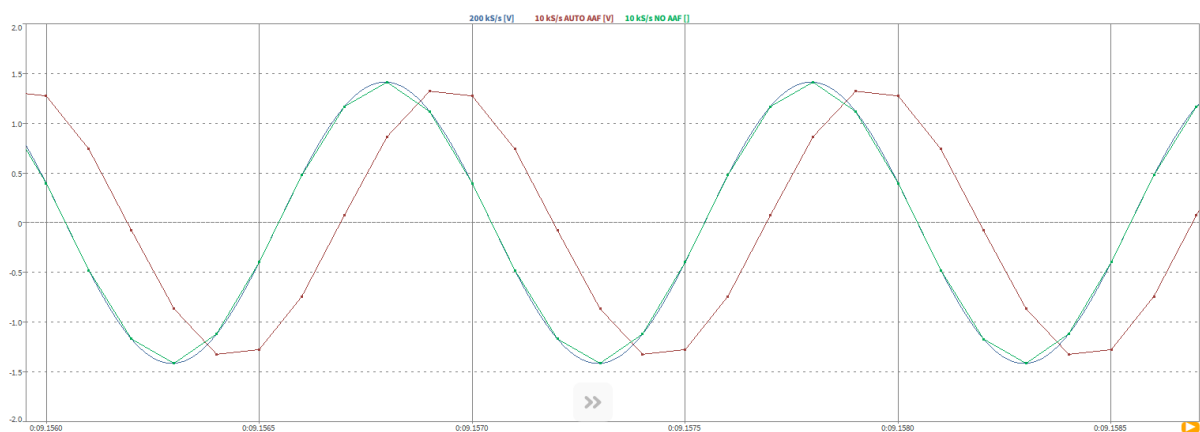

Fig. 7.36: Channel-wise sample rate reduction with example signals
In Fig. 7.36 exemplary signals with and without sample rate reduction and with different filter settings can be seen. The different signals have the following settings:
- A table can also be copied from another source, e.g. Excel and pasted with **CTRL+V** or the *Paste* button into the table scaling menu. Likewise, the table can be copied using **CTRL+C** or the *Copy* button and pasted into e.g. Excel (see Fig. 7.36).